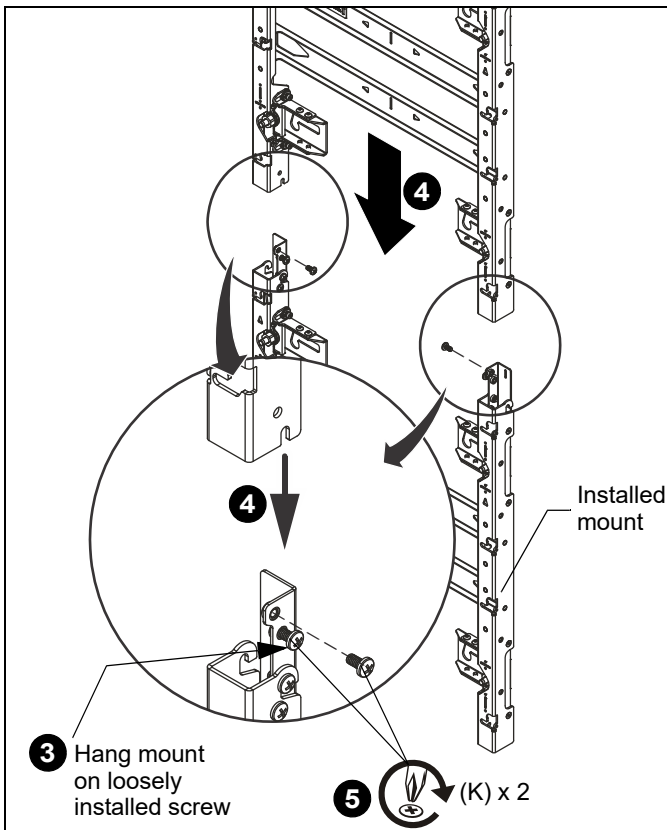

Figure 20
3. Make sure the 1/4-20 x 1/2" Phillips head screw (K) is already loosely installed in the vertical connector (L) on both sides of the mount. (See Figure 20)
5. Install two 1/4-20 x 1/2" Phillips head screws (K) into upper hole on both vertical connectors, and tighten all screws. (See Figure 20)
8. Drill pilot holes in centerline of each mounting slot on each leveling foot of the added mount (see Table 1 for size) and follow fastener information (appropriate for wall type) located in Table 1. (See Figure 20)